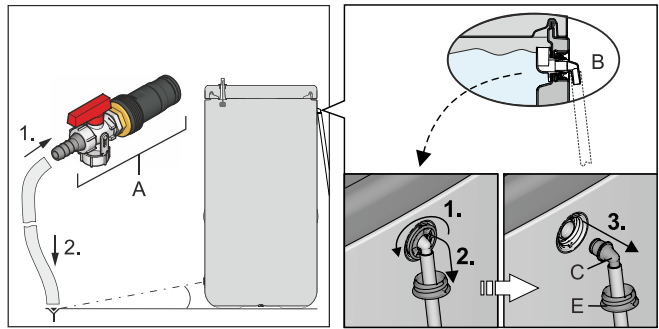
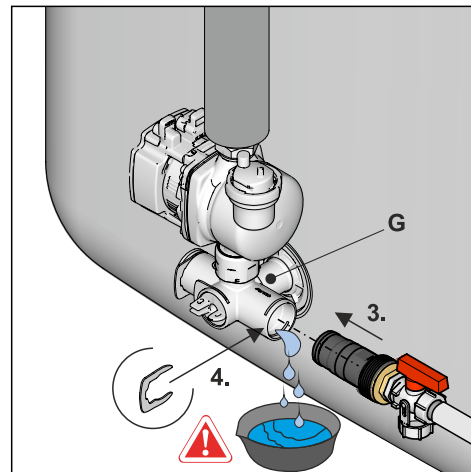

Fig. 9-1 Installing the drain hose; optional: Detaching the connecting piece from the safety overflow
Fig. 9-6 Installing the combined filling and draining filling connection in the connection bracket
- 2 Connect the drain hose to the **combined filling and draining filling connection (combined filling and draining BA accessories)** (Fig. 9-1, item A) and to a waste water drainage point which is at least at ground level.
If no **combined filling and draining filling connection** is available, the connecting piece (Fig. 9-1, item C) can be detached from the safety overflow (item B) and used.
Tab. 9-1 Legend for Fig. 9-1 to Fig. 9-6
- 1 Adjust the valve insert on the connection bracket so that the path to the blind plug is blocked off (Fig. 9-6).
- 2 Place a suitable collecting tray and remove the blind plug from the connection bracket (Fig. 9-6).
- 3 Insert the **combined filling and draining filling connection** in the connection bracket and secure with the holding clamp (Fig. 9-6).